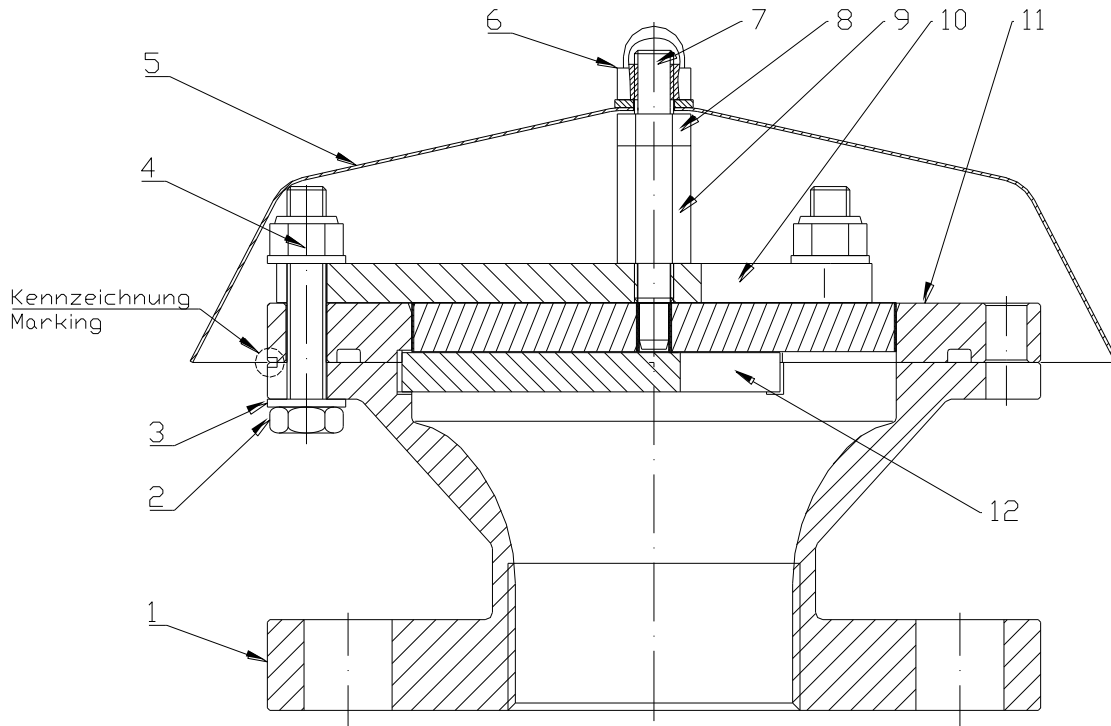

Fig. 1
5. Technical specifications (See fig.1)
(See figure 1)
- Look out for the right position of flame arrester element (11) and housing (1). Markings should be in line as viewed in fig.1
- Spare part no. (Please refer to **fig. 1** for items)